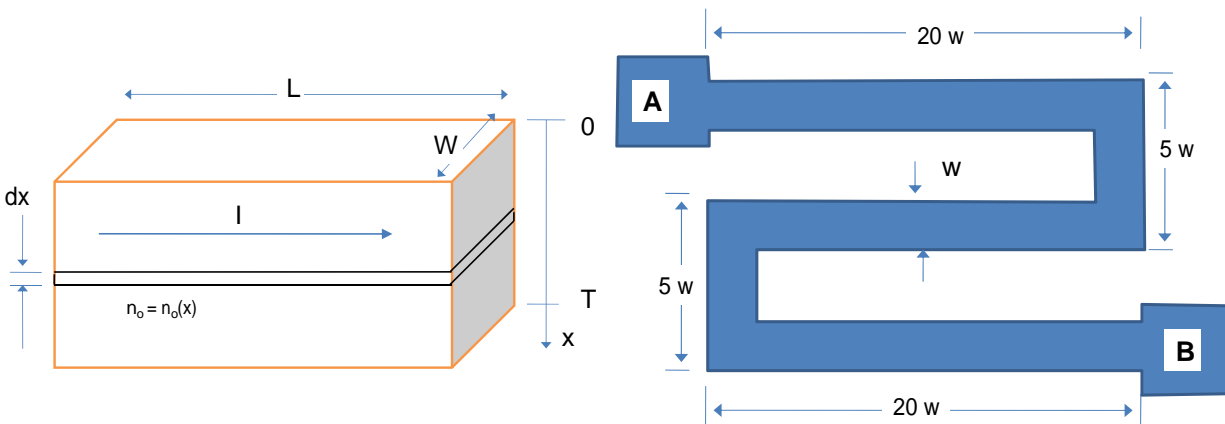

Figure P2-2a & b
- (a) Consider a sample of n-type silicon L cm long, W cm wide, and T cm thick that is nonuniformly doped in such a manner that the equilibrium majority carrier population varies throughout its thickness as  $n_0(x)$  (see Figure P2-2a). Show that if the mobility  $\mu_N$  is constant, independent of the doping level, then the end-to-end resistance of this sample depends only on the integral of  $n_0(x)$  over the thickness of the sample (i.e., from  $x=0$  at the top surface to  $x=T$  at the bottom surface) and not on the actual shape of  $n_0(x)$ . (Hints: Assume that current conduction is lateral, i.e. parallel to the surface. Mentally divide the